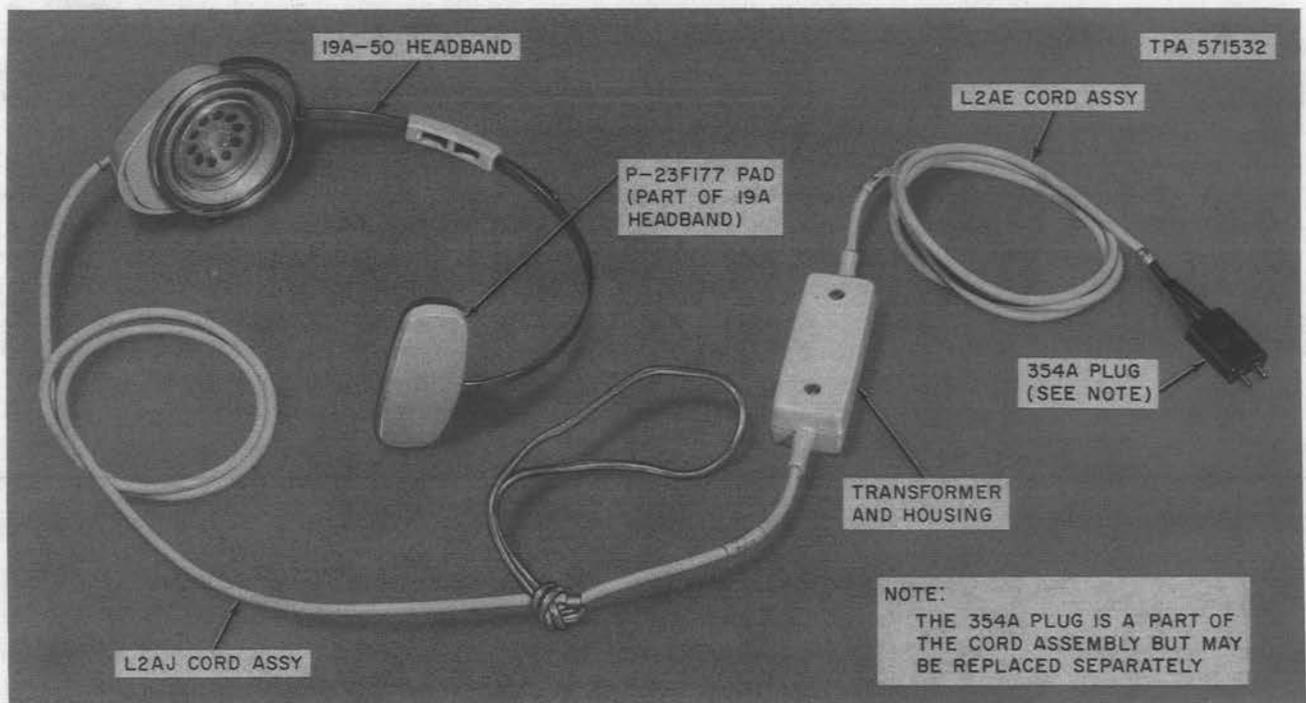

Fig. 1—1023A-Type Headset
1.03 The 1023A headset (Fig. 1) is designed for monitoring 2400- and 2600-Hz tone signals used to trigger automatic severance of toll trunk connections at the end of a long distance call. It is intended for 600 ohm lines and presents a 20,000-ohm impedance to the line to minimize loading.